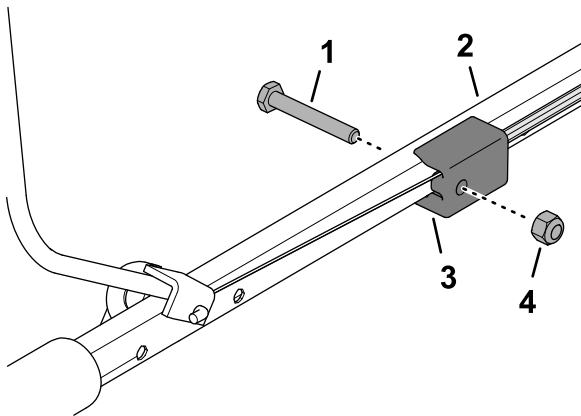

Figure 13
5. Secure the handlebar fitting to the upper handlebar (Figure 13) with the bolt (1/4 x 1-3/4 inches) and locknut (1/4 inch).